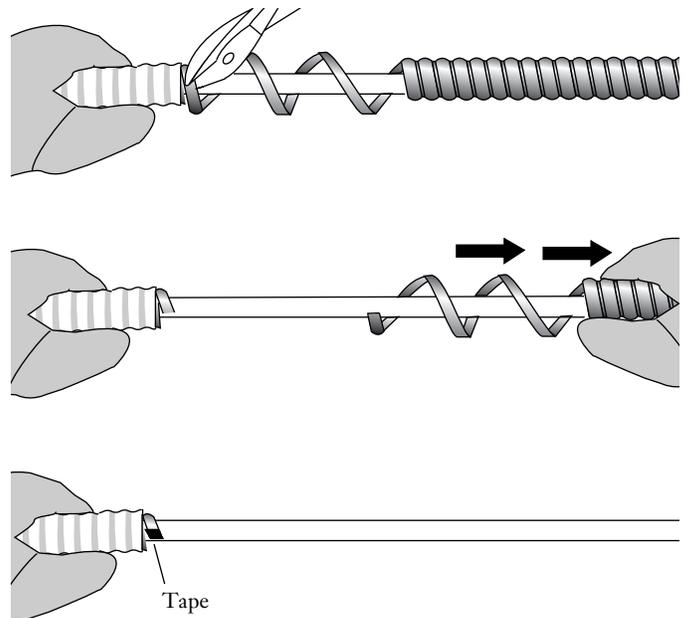

Figure 20
5.9 Using the side cutters, cut the armor across the narrow separated band. Remove the armor and outer sheath from the free end of the cable by sliding it off (Figure 20).